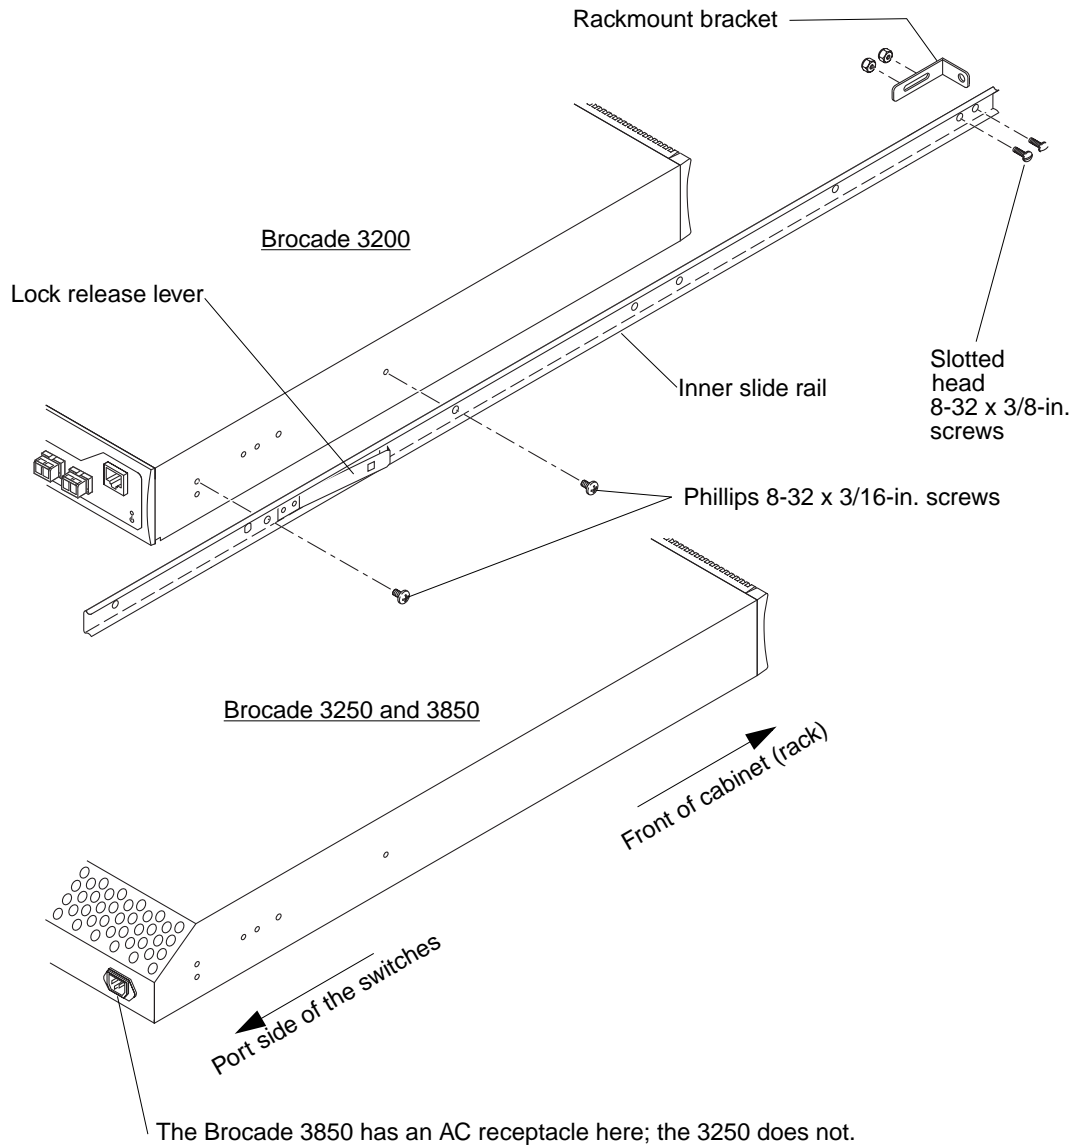

FIGURE 1-1 Brocade SilkWorm 3200, 3250, and 3850 Switch Inner Slide Rail Installation
- a. Position a rackmount bracket at the end of one of the inner slide rails (the end that does not contain the lock release lever), as shown in FIGURE 1-1.
To allow the fan side of the switch to slide out the front of the rack, orient the rail as shown in FIGURE 1-1, with the end containing the lock release lever towards the port side of the switch.
- b. Attach the rail to the 3200, 3250, or 3850 switch by using two of the Phillips 8-32 x 3/16-inch screws. See FIGURE 1-1.